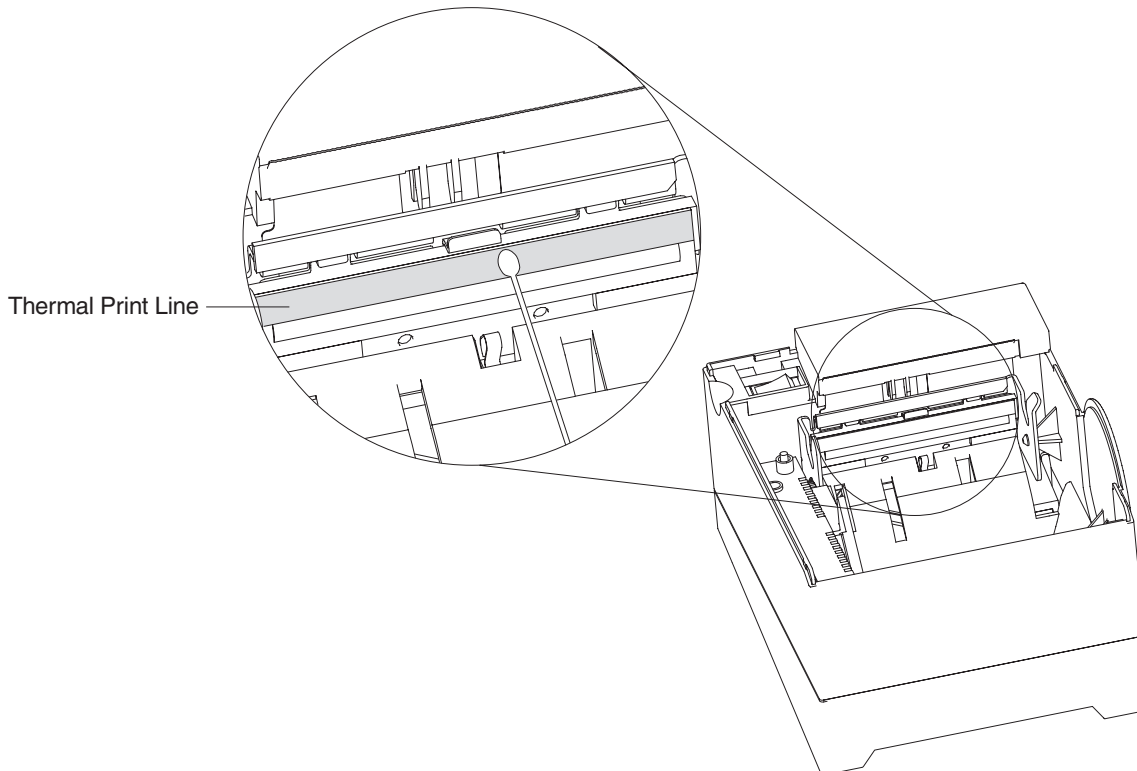

Figure 30. Printhead and Print Line Area (Models TF7 and TM7)
2. Using a cotton swab soaked in isopropyl alcohol, gently wipe the printhead several times on its print line and on the surrounding area. See Figure 30.